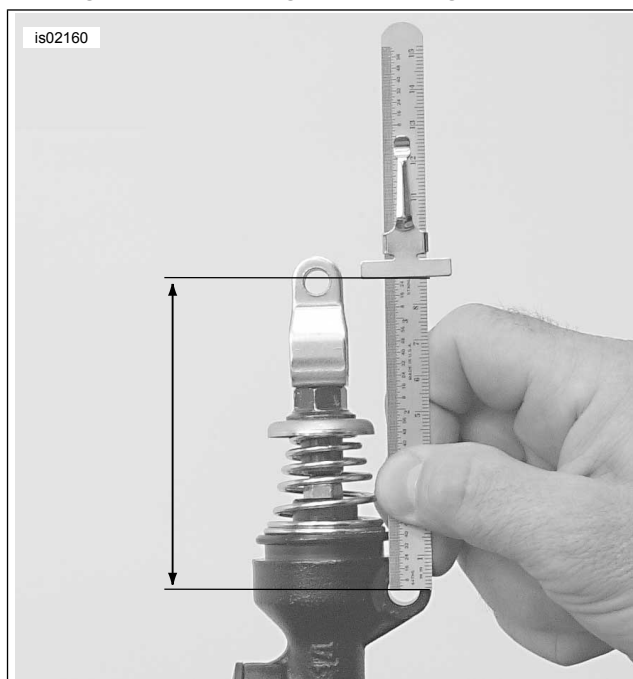

Figure 7. Adjusting Push Rod Length (87.3 mm +/- 1 mm)
12. Thread yoke (3) onto push rod, at least 2-3 turns past flats. Install spring pin (12).
13. See Figure 7. Measure distance from centerline of clevis pin hole in yoke to centerline of master cylinder mounting boss closest to yoke. This distance must be 87.3 mm +/- 1 mm. Turn yoke on push rod in one direction or the other until this distance is obtained.